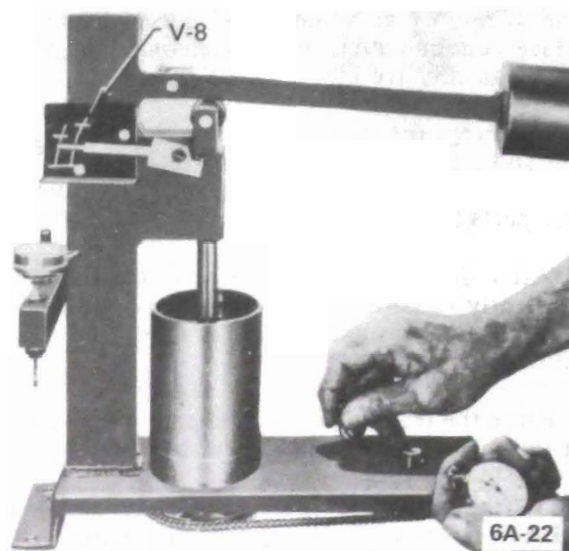

Figure 6A-22 - Checking Lifter Leakdown Rate
4. Lower the ram to rest in the lifter push rod seat, then lower the weight arm to rest on the roller of ram as shown in Figure 6A-22.
The newer Model J-5790 leakdown tester will have a different scale than the one shown in Figure 6A-22. In this case, time the pointer travel from "Start" to the .125 mark on the scale. The leakdown rate must still be between 12 and 60 seconds.